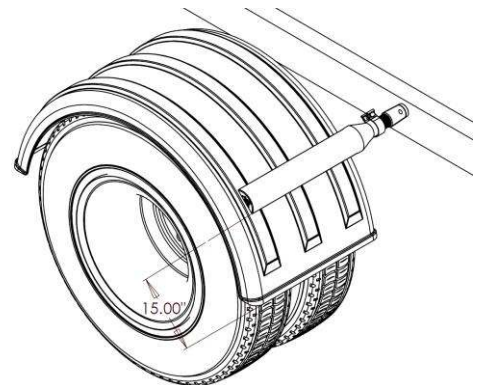

Figure 7
- D. If possible, position the mounting brackets so they are located within 15" of the bottom of the fender. This guards against wind blowing the leading edge of the fender back into the tire (Figure 7).